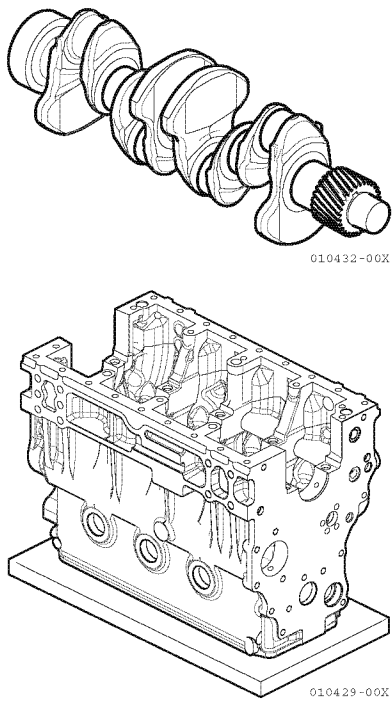

Figure 5-55
52. Remove the crankshaft (**Figure 5-55**).